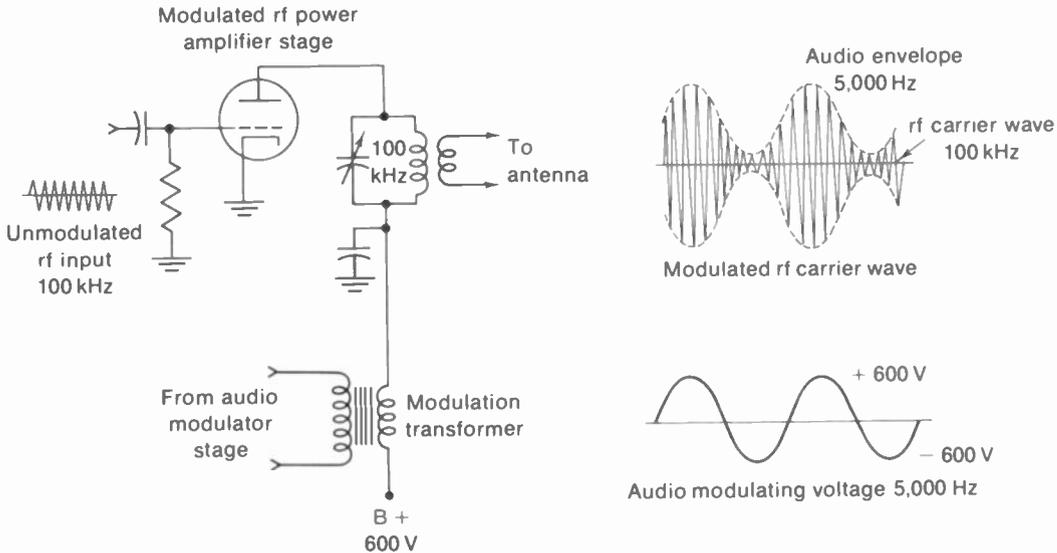

FIGURE 6-2 PLATE-MODULATION CIRCUIT. THE 100-KHZ RF CARRIER IS AMPLITUDE-MODULATED BY THE 5,000-Hz AUDIO VOLTAGE.
**Amplitude modulation.** In Fig. 6-2 an rf carrier wave is amplitude-modulated by a sine-wave
TABLE 6-1 MODULATION VALUES FOR FIG. 6-2